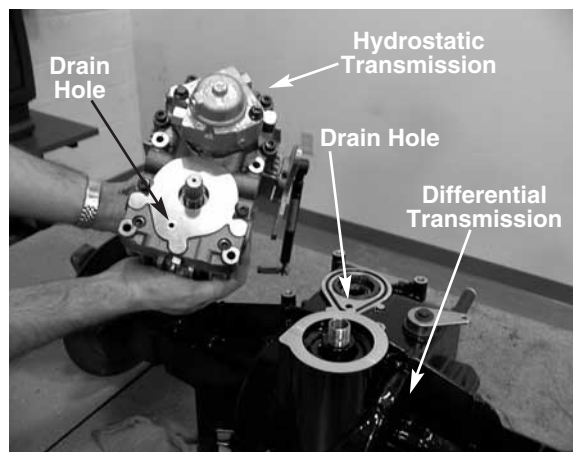

FIGURE 7.
13. Remove the hydrostatic transmission from the differential transmission and inspect the case drain holes on the hydro and the differential. See figure 7.